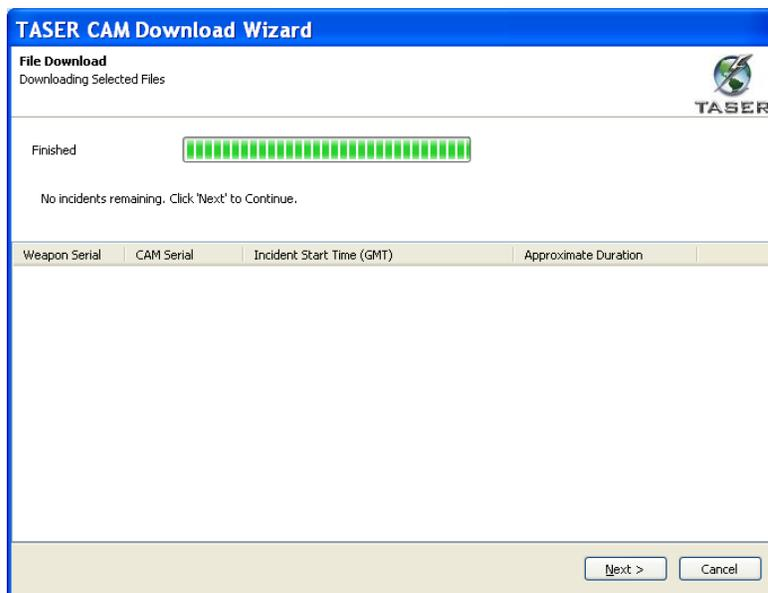

Figure 16
- When the downloading is complete, click **Next** to continue (Figure 16).